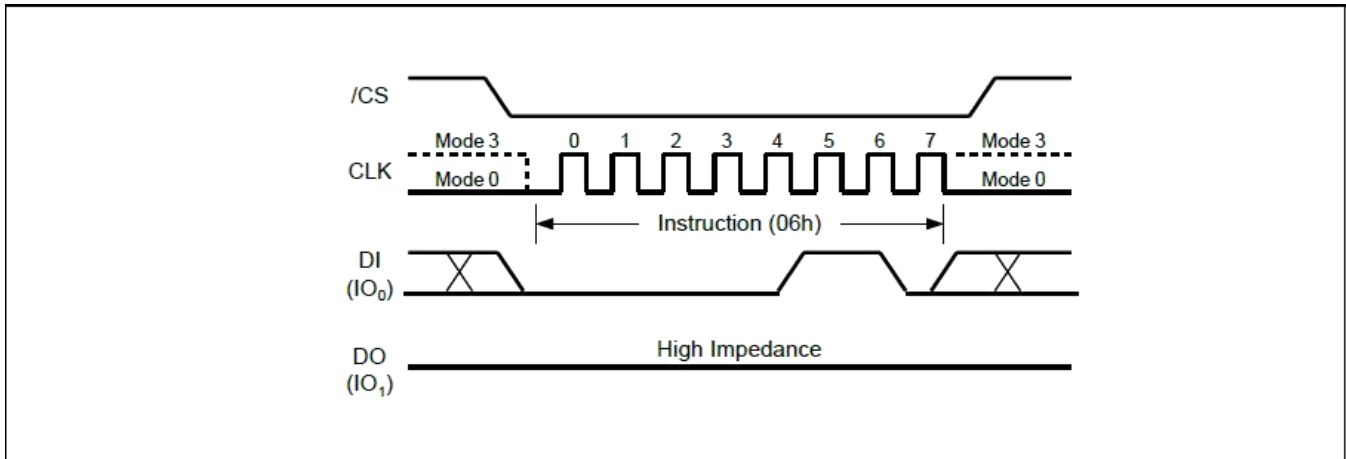

Figure 4. Write Enable Instruction for SPI Mode
Instructions vary in length from a single byte to several bytes and may be followed by address bytes, data bytes, dummy bytes (don't care), and in some cases, a combination. Instructions are completed with the rising edge of edge /CS. Clock relative timing diagrams for each instruction are included in Figures 4 through 35. All read instructions can be completed after any clocked bit. However, all instructions that Write, Program or Erase must complete on a byte boundary (/CS driven high after a full 8-bits have been clocked) otherwise the instruction will be ignored. This feature further protects the device from inadvertent writes. Additionally, while the memory is being programmed or erased, or when the Status Register is being written, all instructions except for Read Status Register will be ignored until the program or erase cycle has completed.
The Write Enable instruction (Figure 4) sets the Write Enable Latch (WEL) bit in the Status Register to a 1. The WEL bit must be set prior to every Page Program, Quad Page Program, Sector Erase, Block Erase, Chip Erase, Write Status Register and Erase/Program Security Registers instruction. The Write Enable instruction is entered by driving /CS low, shifting the instruction code “06h” into the Data Input (DI) pin on the rising edge of CLK, and then driving /CS high.